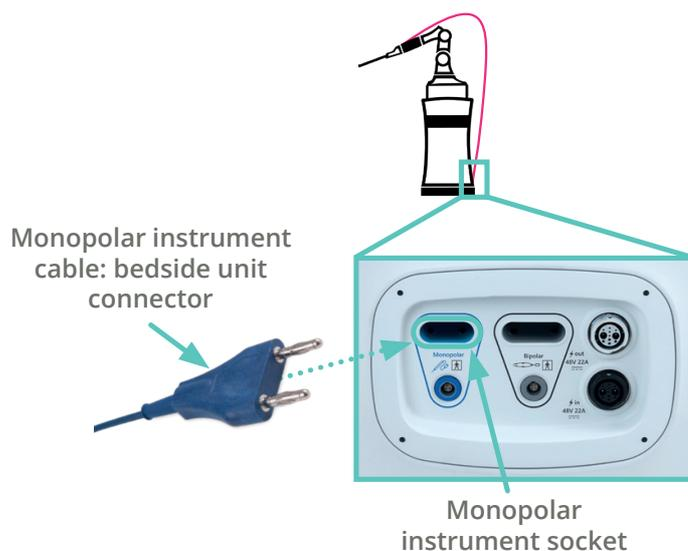

Figure 10.11 *Connecting the monopolar instrument cable to the instrument bedside unit*
2. The instrument bedside unit connection panel (Figure 10.11)